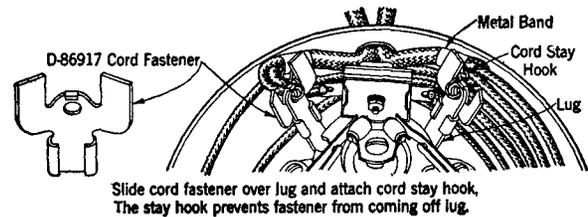

Fig. 2.
2.03 **Unnotched Lugs (With Hole):** Pass open end of stay hook through hole in lug from the outer side (side facing the outside of hand set mounting), and then close stay hook on inner side of lug. If hand set mounting has a condenser in base ("A" type hand set mountings), use a D-86917 cord fastener as shown in Fig. 2 to prevent the possibility of the metal stay hook or band grounding or otherwise interfering with current carrying parts.